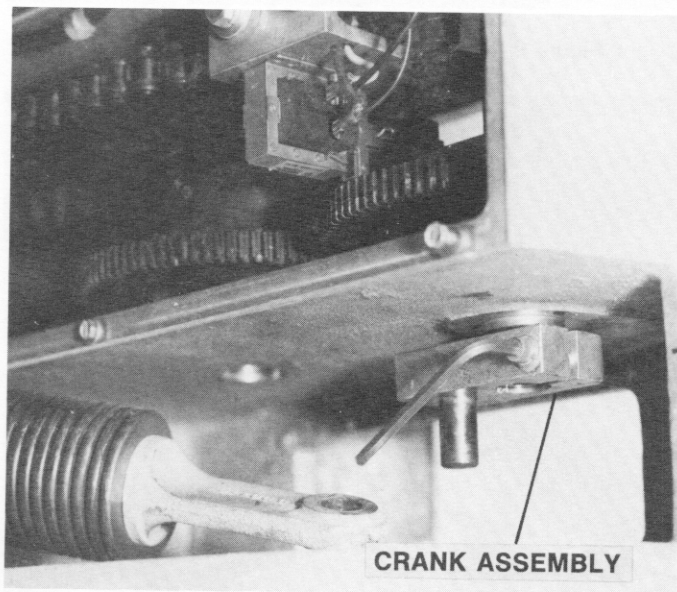

Figure 12 — Mainshaft Crank
- J. Loosen mainshaft crank lock screw and remove crank assembly and key (see Figure 12).